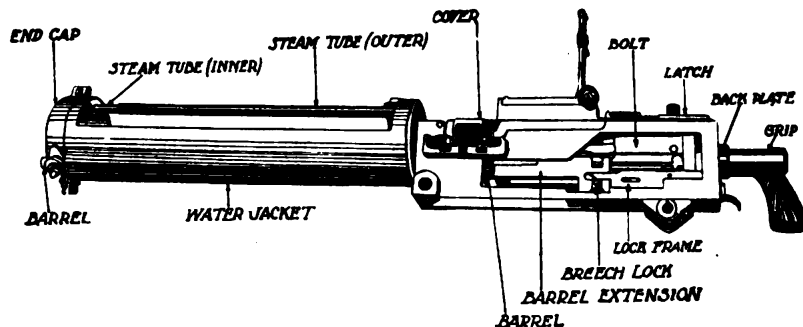

FIGURE 182.—Browning caliber .30 machine gun, M1917.
Q. Point out and state the uses of the important parts shown in figure 182. *A.* See figure 182.